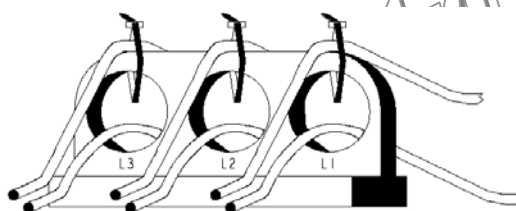

Figure 17 - Configuration C
- Configuration C: 2 sets of leads, 1 set through the toroid, the other around it. See Figure 17 on page 165.